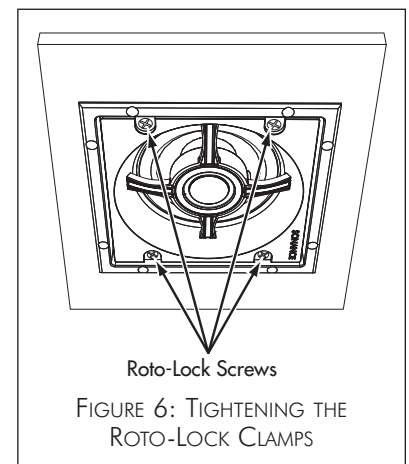

FIGURE 6: TIGHTENING THE ROTO-LOCK CLAMPS
5. Tighten the Roto-Lock screws on the front of the speaker baffle. (Small round speakers have three Roto-Lock screws; Small square speakers have four.) The Roto-Lock clamps will rotate into position and begin clamping the speaker (*Figure 6*).